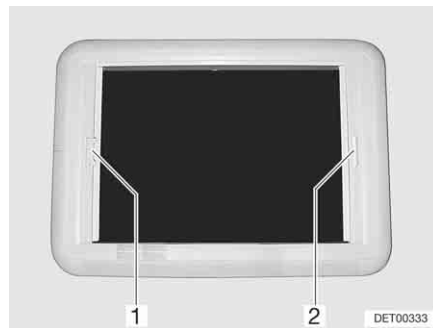

Fig. 61 Heki skylight, blind lock
- Pull blind at the handle (Fig. 61,2) to the opposite handle of the insect screen (Fig. 61,1) and allow to engage.
- With your other hand, push the unlocking bar on the handle of the insect screen (Fig. 61,1) towards the handle. The lock is released.
- Pull insect screen at the handle (Fig. 61,1) to the opposite handle of the blind (Fig. 61,2) and allow to engage.
- Hold the insect screen (Fig. 61,1) by the handle and push the unlocking bar towards the handle. The lock is released.